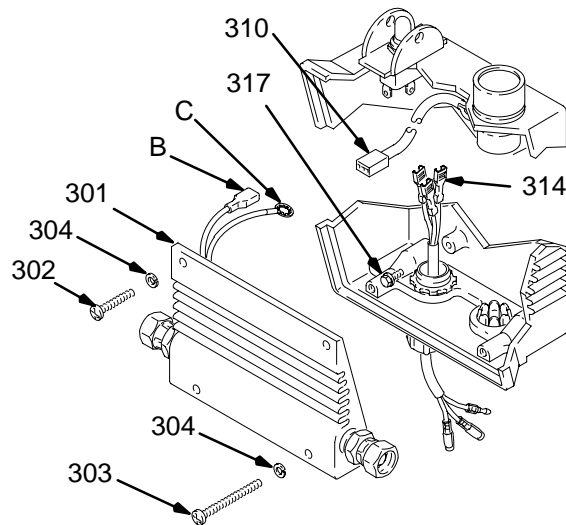

Fig. 24
4. Remove the four mounting screws and washers (302, 303, 304) from the pressure control cover (76). See Fig. 24.
5. Carefully remove the engine control board (301) so as not to stress the cables.
6. Disconnect the black and white wires of the pressure control cable (314) from the engine control board.
7. Disconnect the potentiometer cable assembly (310) from the pressure control cover.
8. Disconnect the red power lead (B) from the ON/OFF switch.
9. Loosen the ground terminal screw (317) and disconnect the ground lead (C).